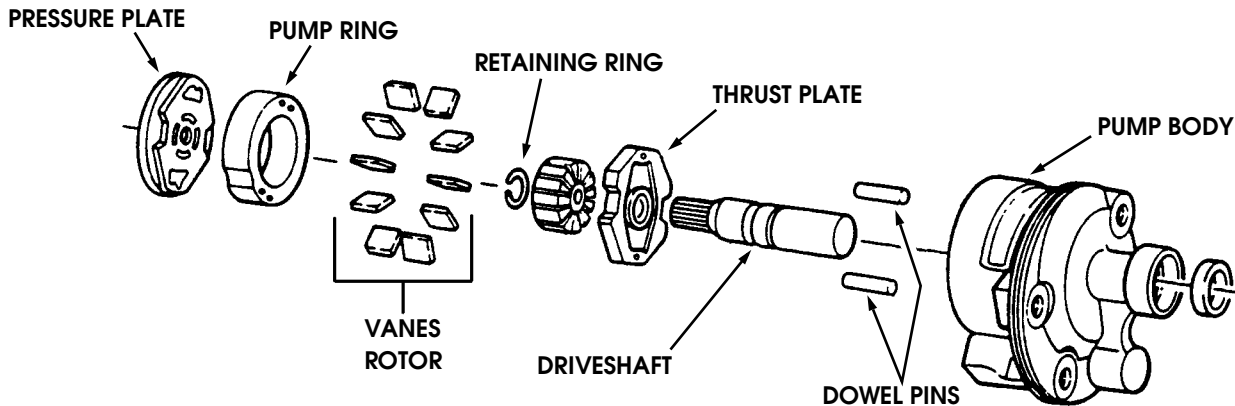

Figure 8-75: Pressure Plate and Rotor Removal
22. Remove pressure plate (Figure 8-75).